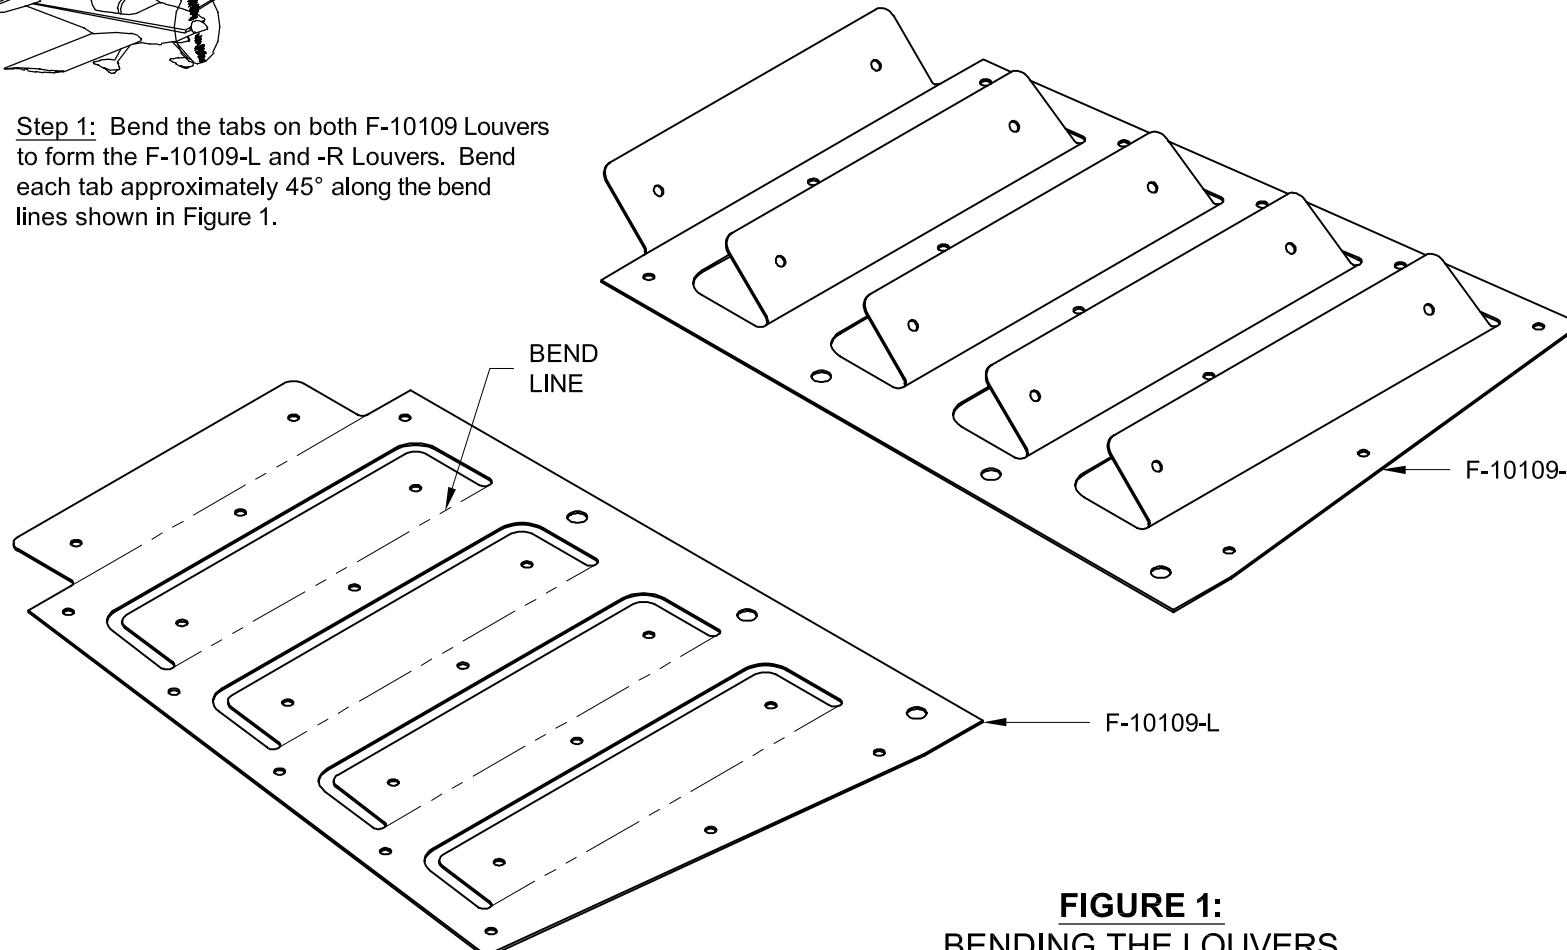

FIGURE 1:
Step 1: Bend the tabs on both F-10109 Louvers to form the F-10109-L and -R Louvers. Bend each tab approximately 45° along the bend lines shown in Figure 1.